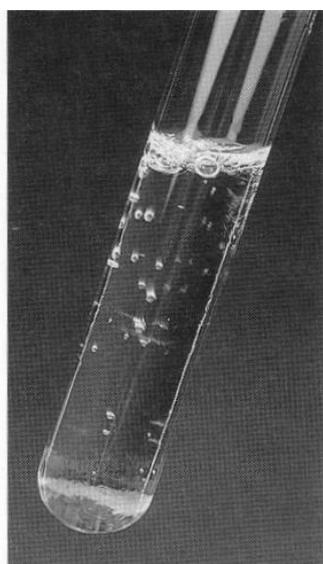

Figure 3.1 A reaction mixture of $\text{NaHCO}_3(\text{aq})$ and $\text{HCl}(\text{aq})$ produces CO_2 gas.
- A gas is evolved. This evolution may be quite rapid or it may be a "fizzing" sound (Figure 3.1).